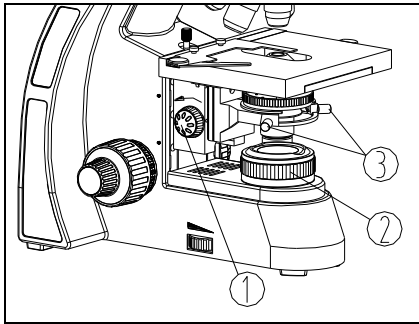
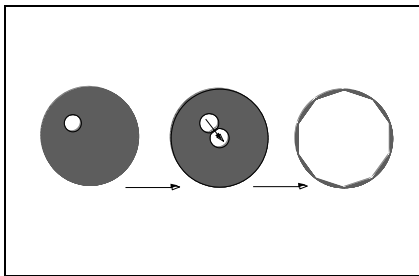

Fig. 16
Fig. 17
1. Rotate the condenser up-down knob ① to raise it to the highest position (see Fig. 16).
3. Rotate the field diaphragm adjustment ring ② to put the field diaphragm to the smallest position.
4. Rotate the condenser up-down knob ①, and adjust the image to be clearest.
5. Adjust the center adjustment screw ③ and put the image to the center of the field of view (see Fig.17).